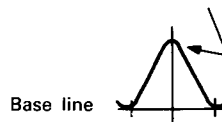

Fig. 12
4. Feed in a weak signal to TP2 from the genescope. Adjust T201 for maximum gain and the waveform indicated in Fig. 12. If the center of the waveform cannot be lined up on the marker, adjust the right/left balance.